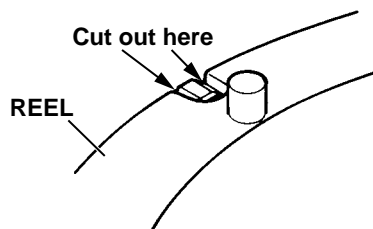

Fig. 9-4
(1) Cut off a part of the reel shown in Fig. 9-4 with a nippers or a knife to form a notch which is required when pre-winding the spring.